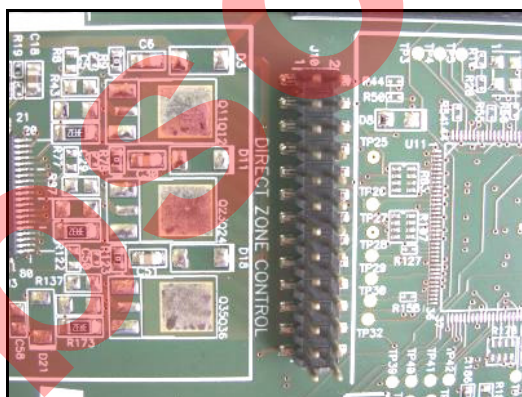

Figure 24: Direct Zone Control Connector
9. Direct Zone Control (see Figure 24)